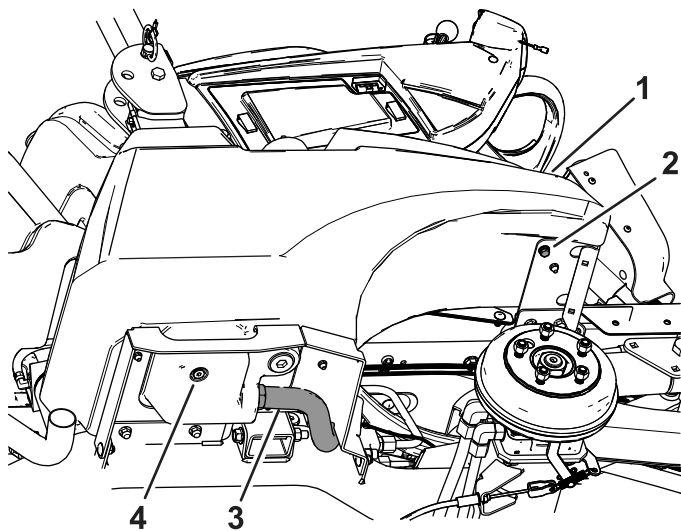

Figure 4
- Remove the bottom bolt and hose shown in Figure 4.